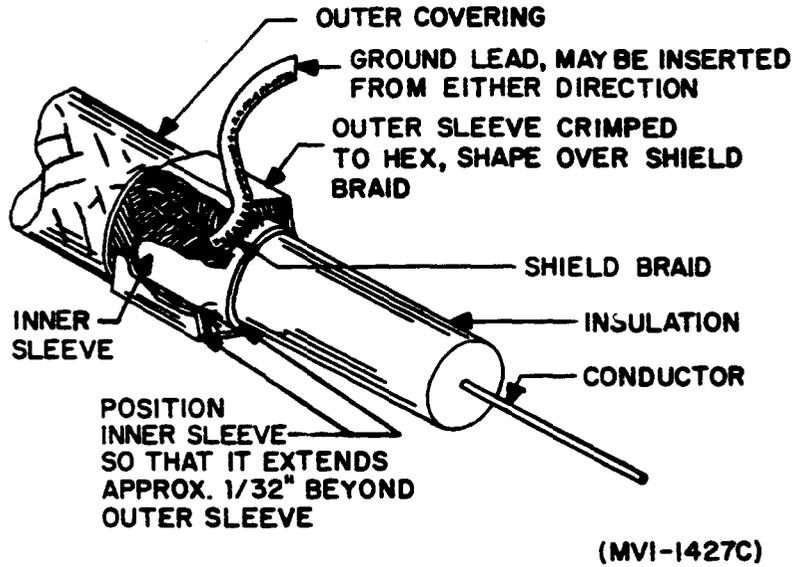

FIG. 6 SOLDERLESS CONNECTION TO SHIELD GROUND LEAD. PARA. (1.31, 5.2215)
- b) Slide the proper inner sleeve under the shield braid and position it so that the end of the inner sleeve will extend approximately 1/32" beyond the end of the metal outer sleeve. While no loose strands of the shield braid are permitted to extend beyond the end of the inner sleeve, the shield braid shall be at least flush with the end of the metal outer sleeve. Figures 6 & 7 show the proper orientation.
5.2215 When an external lead is to be connected to the shield, insert the folded skinned end of the wire between the outer sleeve and the shield as shown in Figure 6. When 16AA wire (16 gauge stranded) is specified for such a connection, skin this wire with the power wire stripper (R-2165).